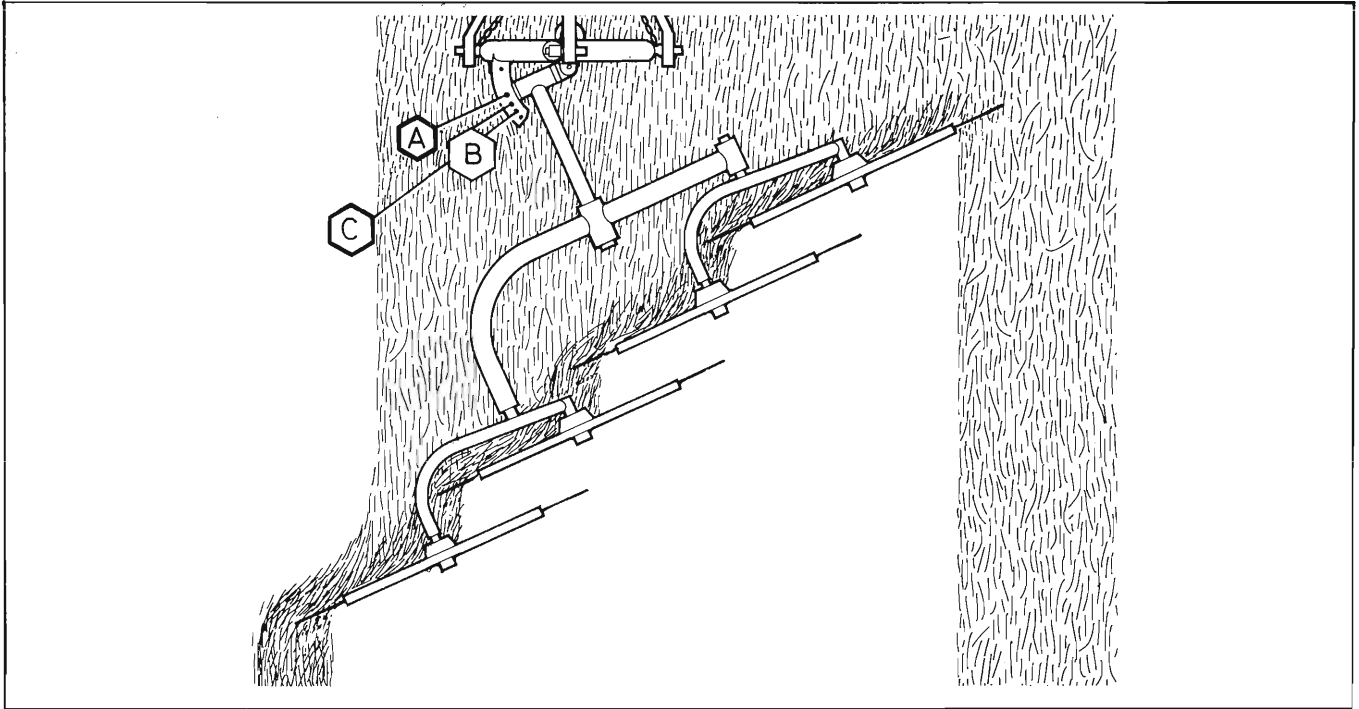
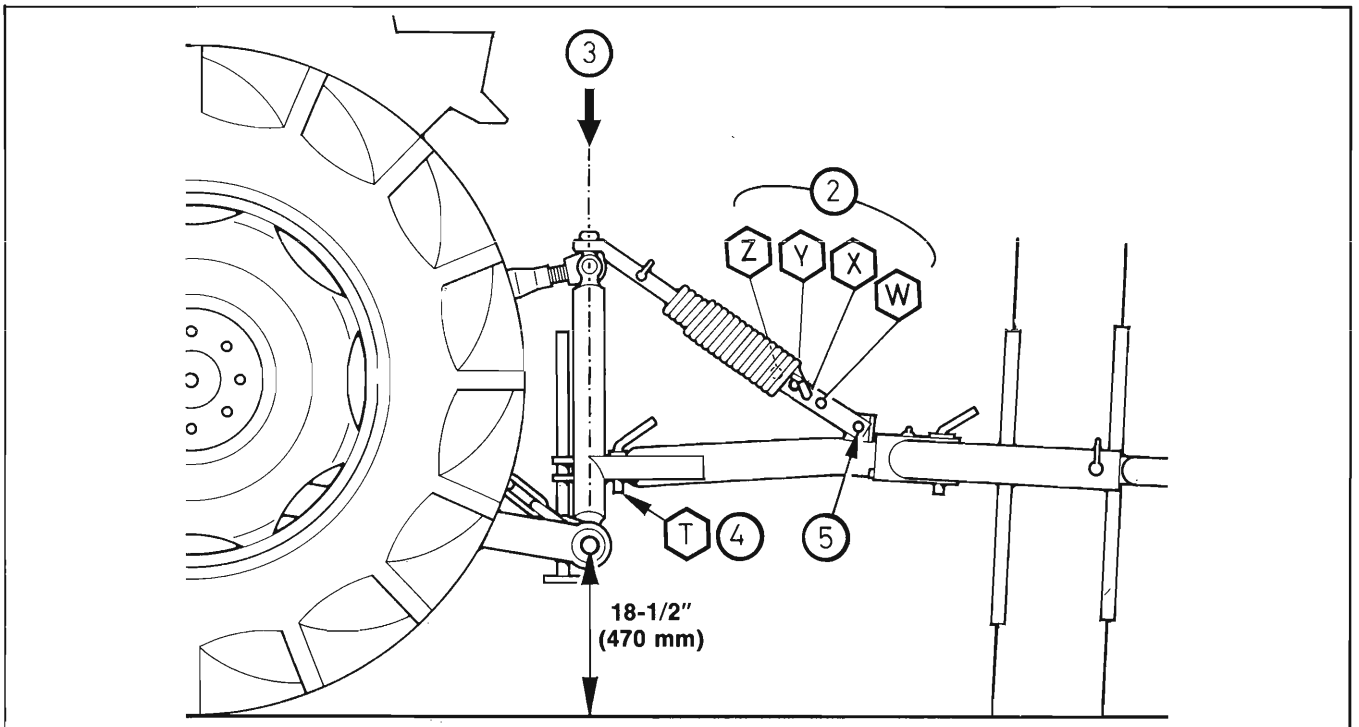

Fig. 24
Fig. 25
Normally, the Finger Wheels are placed to overlap each other (Fig. 24). The cut material is then raked from right to left. With the Main Frame in hole (A) (Fig. 24), maximum raking width is set. If this position is tested and found to cause bunching of the material, the operating width should be reduced by selecting Main Frame hole position (B) or (C). The Finger Wheel depth and pressure is set with the Adjustment Strip underneath the Telescoping Spring assembly (2 of Fig. 25). For most
Finger Wheel pressure can be corrected in all positions by placing the 3-point Hitch vertically (3 of Fig. 25). In order to adjust the Strip, place the Rake in the (T) position (4 of Fig. 25), lower the hydraulics until the Spring tension is reduced. If necessary, lengthen the Toplink by loosening the Spring Pin and adjusting the Strip (5 of Fig. 25).
NOTE: If it becomes difficult to get the crop out of the Rake, reduce the width of the Rake by locating the width adjustment to hole position (D) as shown in Fig. 24. Always drive in the direction which enables the Finger Wheels to work the top of the crop first.